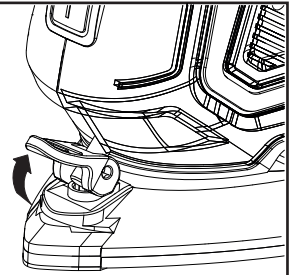

Fig. E1
5. FINGER PAD (SEE FIG. E1, E2, E3)